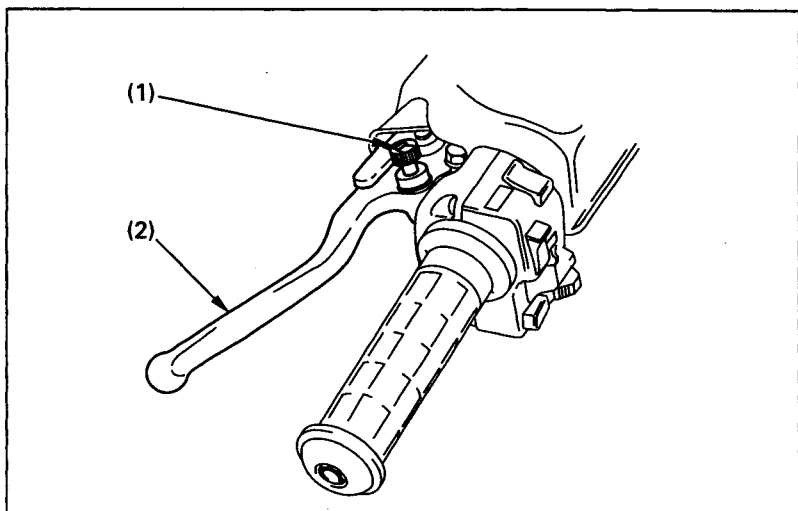

Fig. 2-16 (1) Reverse selector knob (2) Rear brake lever
The reverse selector knob (Fig. 2-16) (1) is on the rear brake lever.